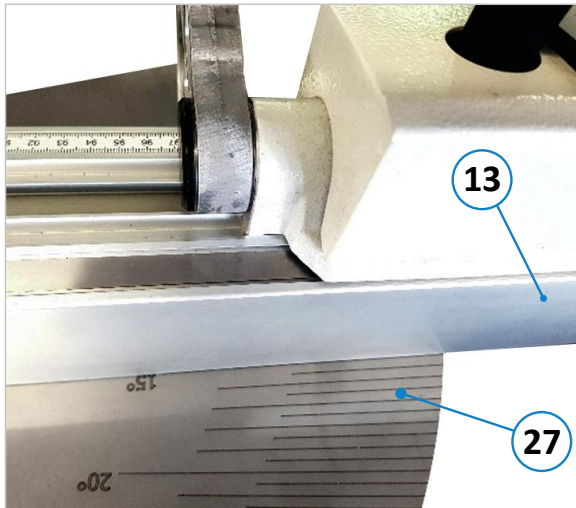

Figure 31: Set angular cuts
- Move the cross-cut fence (**13**) to the 15° marking on the plate (**27**) (see ⇒ Figure 31).